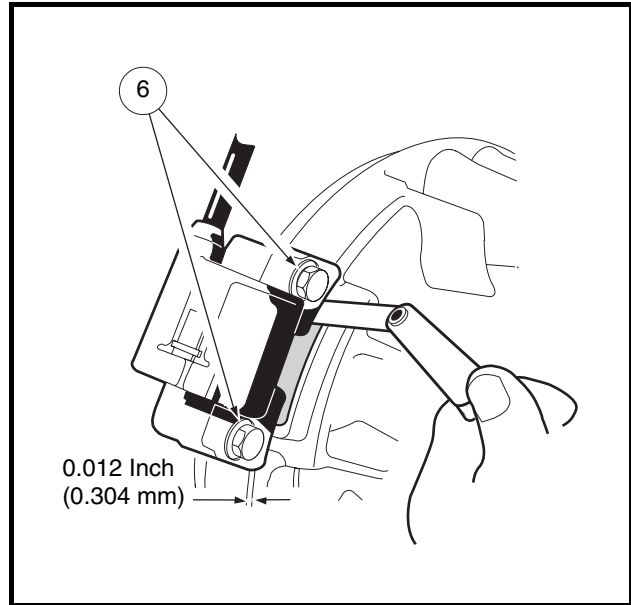

Figure 14-28 Mount Ignition Coil Using Feeler Gauge
4. Remove the grommet (4) from the old spark plug wire. Clean the grommet and place it on the new spark plug wire (5).
8. Install the gasket (1) on the cap (2).
9. Position the ignition coil (7) onto the cast mounting bosses on the engine crankcase and tighten the two mounting bolts (6) to finger-tight at this time.
10. Rotate the flywheel (8) until the magnet is positioned directly under the ignition coil. Use a 0.012-inch (0.304 mm) bronze feeler gauge to set the air gap between the ignition coil and the flywheel magnet. Tighten the two mounting bolts (6) to 30 in-lb (3.4 N·m) (**Figure 14-28, Page 14-25**).